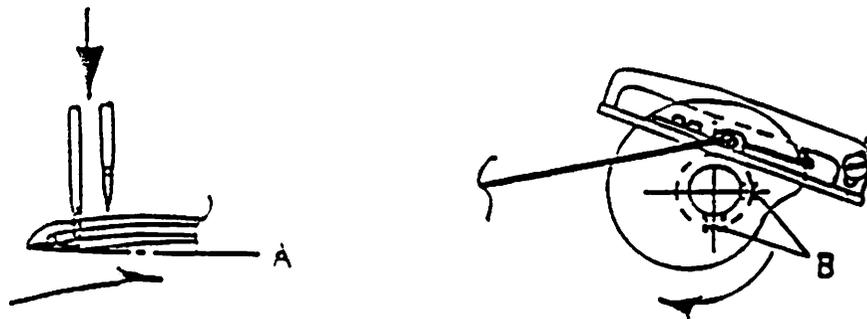

Fig. 14
(16) Timing of Looper Thread Adjusting Cam (Fig 14)